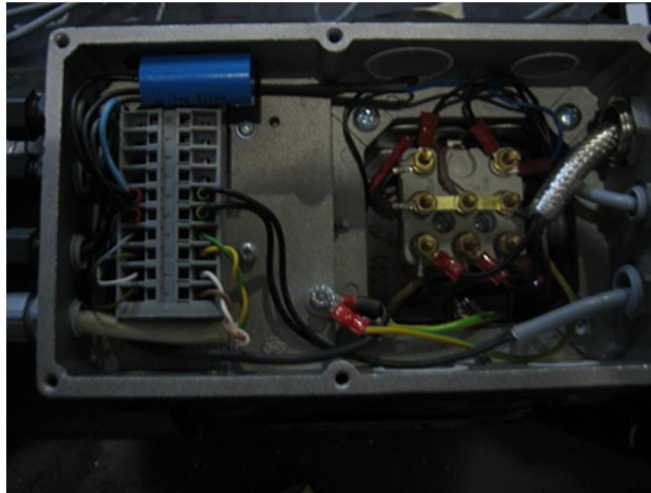

Figure 4
4. Add 50' of 12 conductor (R00141038) in medium cord grip replacing 2 conduit brake wire. (See Figure 4).